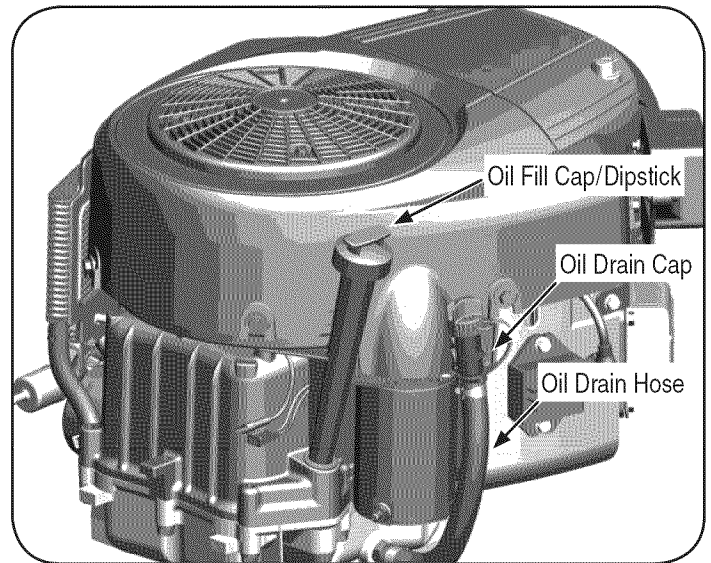

Figure 26
2. Remove the oil fill cap/dipstick from the oil fill tube. See Figure 26.